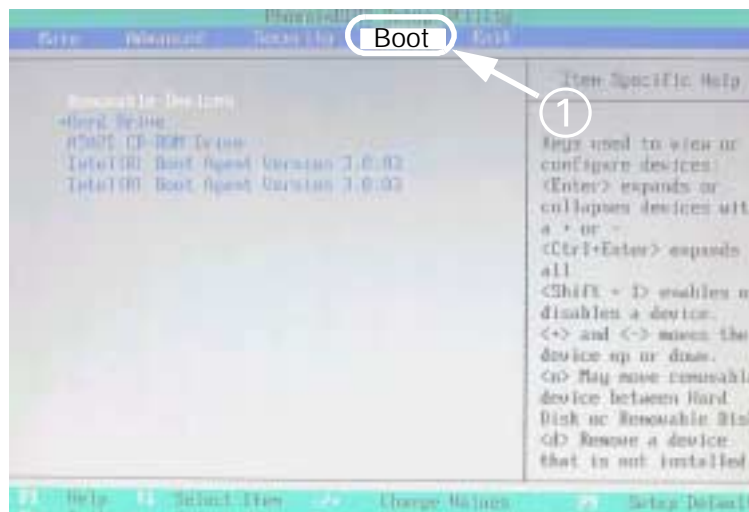

Figure 19-6 Boot settings
17. Select "Boot" tab (① in Figure 19-6) using up/down arrow keys.
18. Verify correct "Boot" order as shown in Figure 19-6.